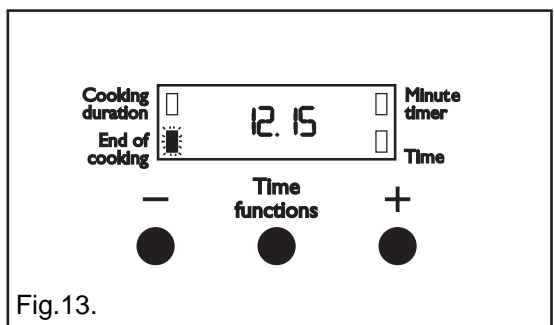

Fig.13.
- 1) To stop the sound press any of the three buttons, as Fig. 13.